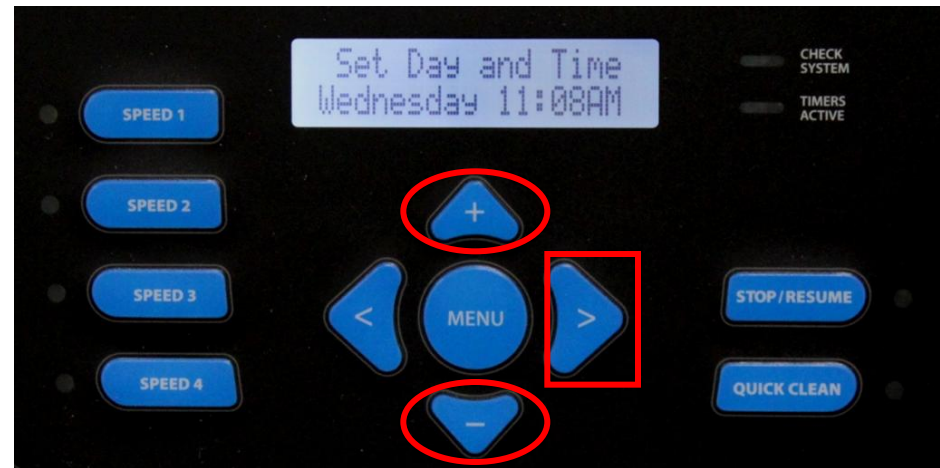

Fig 37
7. You now Use the  button to highlight the day, hour, minute and AM/PM. Use the  &  buttons to change (fig 37). After setting the AM/PM press the  button to continue.